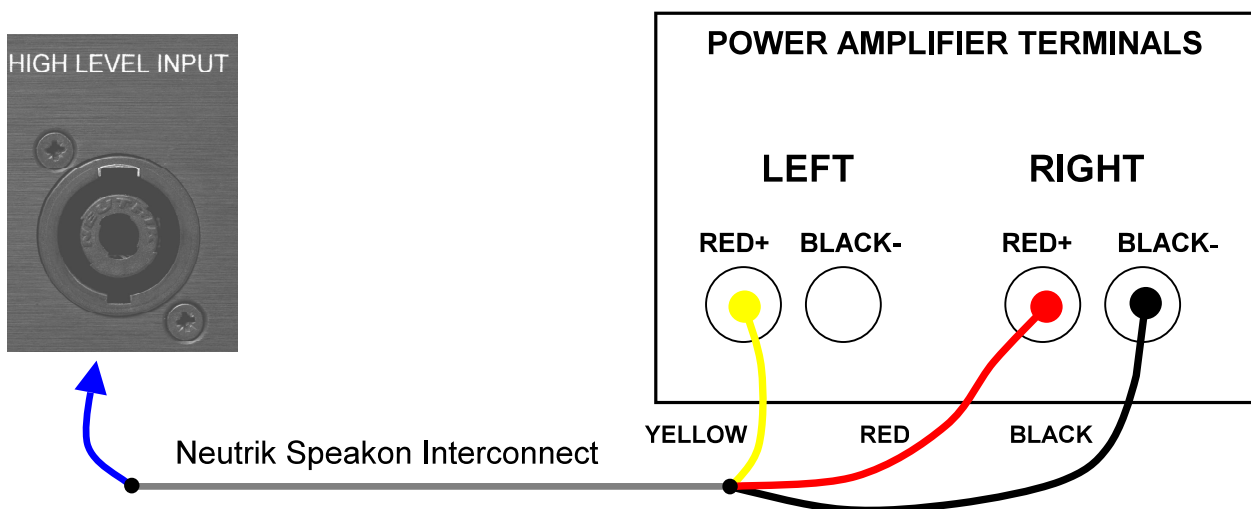
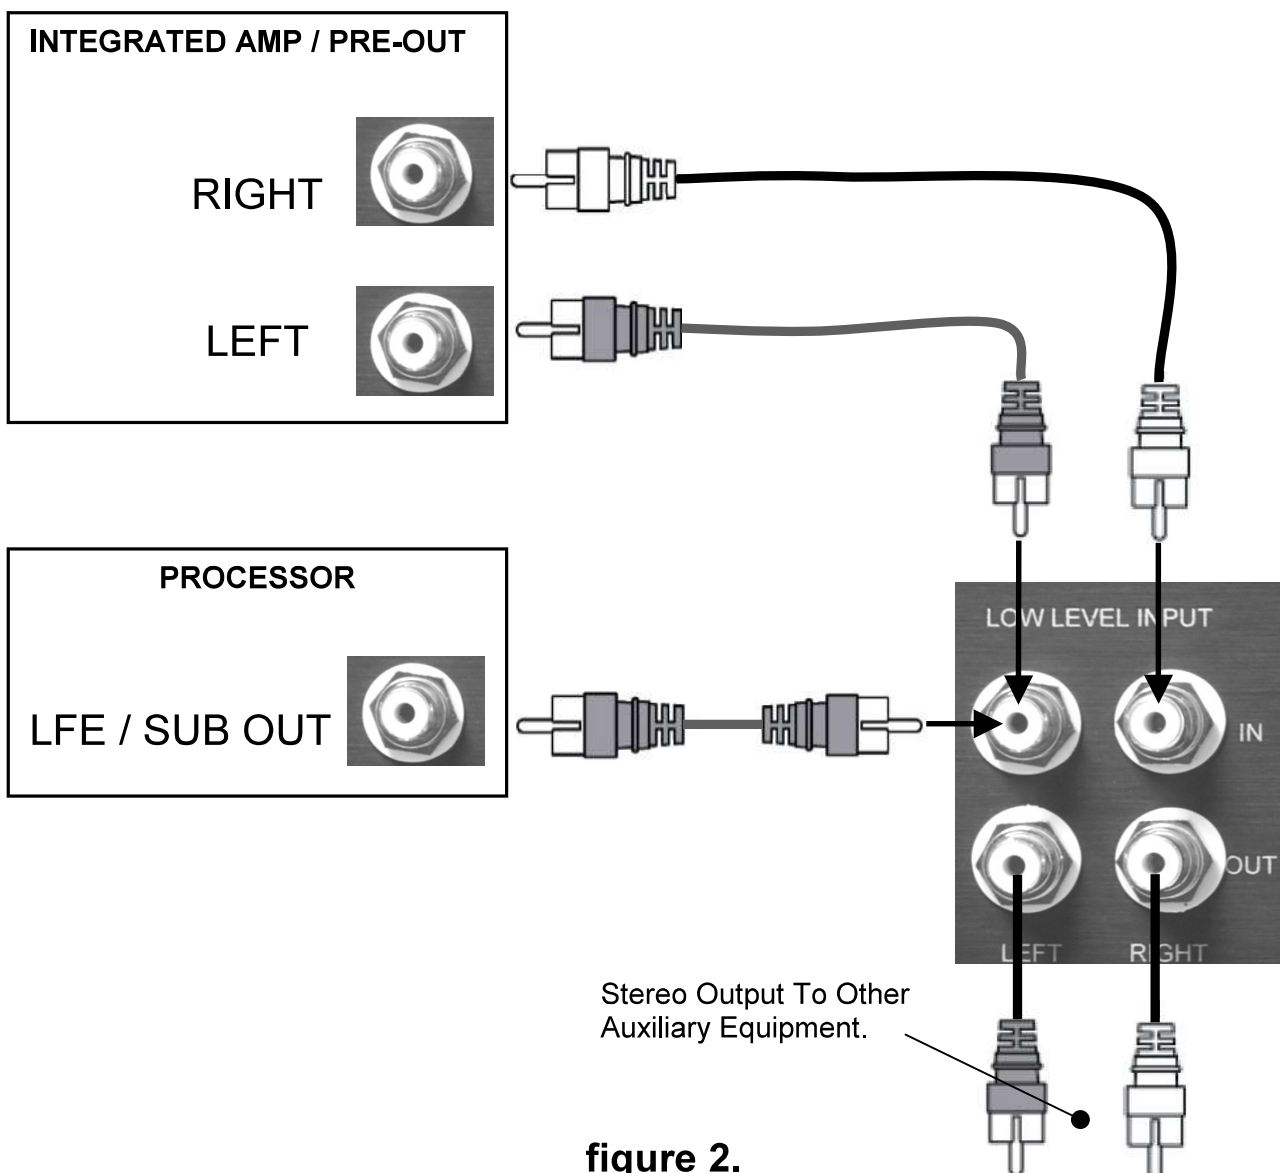

figure 1.
figure 2.
Figure 1. Shows a diagram on how to connect the high level input of the Torus Amplifier. Using the optional Neutrik lead, connect the Torus Amplifier to the output of your amplifier via your existing speaker plug or to a spare set of speaker terminals if available. In effect you are Bi-Wiring your Torus to your power amp. Please note that the Neutrik cable has only three leads and is arranged this way to preserve the star-earthing of your amplifier (assuming it has a star earth arrangement).
Figure 2. Shows a diagram of how to connect the low level input of the Torus Amplifier. Using a pair of RCA to RCA interconnect (not supplied), plug them into the Torus Amplifier low level input and the other ends into the dedicated sub output on your amplifier or processor. If a dedicated sub output is not available then you can use a spare set of pre-amp outputs.
- Connect your Torus Amplifier as shown in Figure 1 or Figure 2. Now attach your Torus Infrasonic Generator to the Torus Amplifier with a good quality loudspeaker cable as shown on page 27 in the Torus Infrasonic Generator Manual. Plug the Torus Amplifier into your mains socket using the supplied cable or another suitable IEC power cable. At this point have the power switch in the off position.